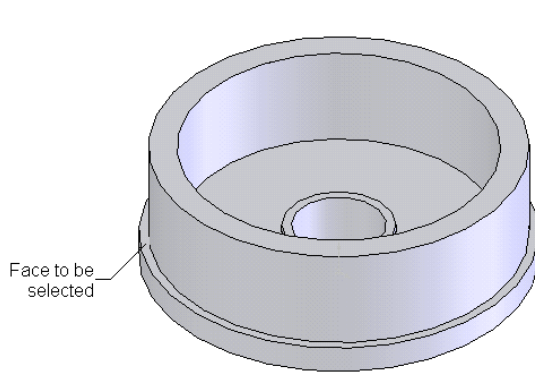

Figure 7-79 Face to be selected
- Create the second feature by extruding the sketch from the sketching plane to a selected surface, refer to Figures 7-79 and 7-80.
1. Select the face shown in Figure 7-79 as the sketching plane and invoke the sketching environment.